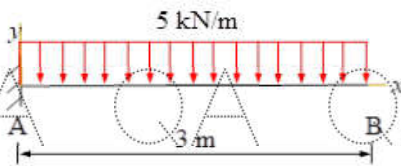
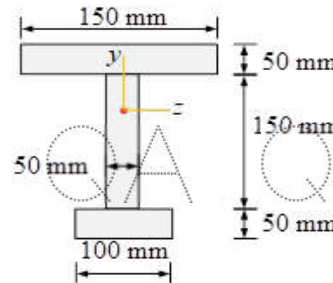

Figure. 4
Figure 5
6. A uniformly distributed load of 5 kN/m is applied to a cantilever beam (shown in Figure 4) having the cross-section shown in Figure.5. Determine the maximum tension and compression bending stresses produced in the beam. [10]